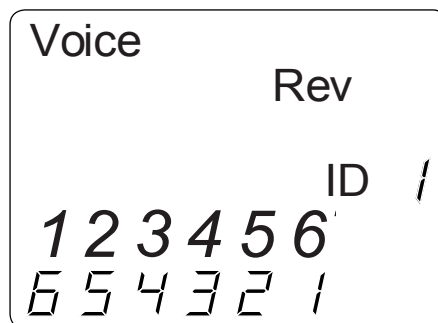

Figure 4. Voice Mode Test with Rev Cable
3. Single Test: To run a single test on the 6-position connected voice cable, press the VOICE MODE button. The following appears in the LCD display screen (see Figure 4):
4. Continuous Test  run a continuous test, press and hold down the VOICE MODE button until “LOOP ON” appears in the display (see Figure 5 below). When looping is active, three small moving “bars” appear on the right side of the display screen. The display screen will update with the icons and values that appear during a single test (see Figure 4). To turn test looping OFF, press and hold down the VOICE MODE button until “LOOP OFF” appears.